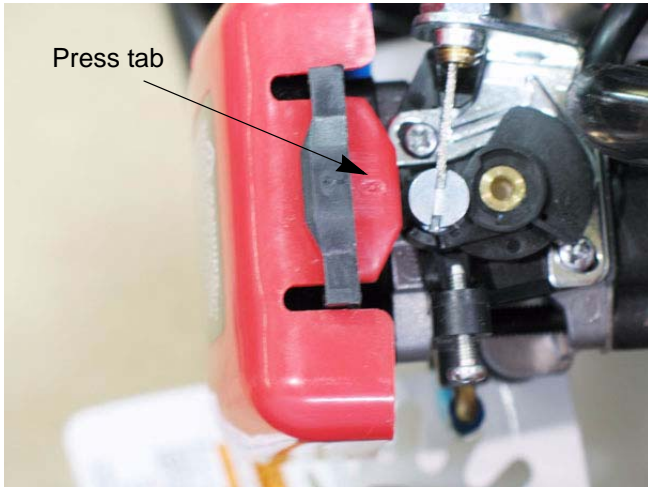

Figure 2.3
- 2a. Press down the tab on the air filter cover and swing the cover down. See Figure 2.3.